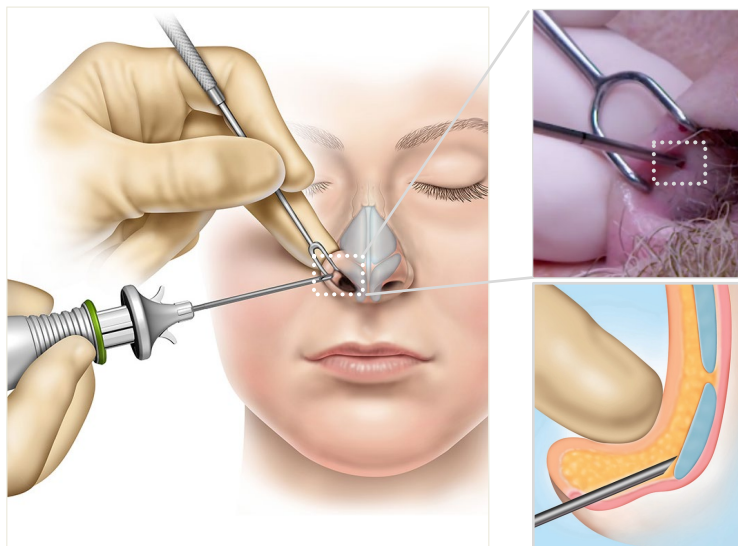

Figure 8: Images showing the approximate Delivery Device orientation, cannula trajectory and pierce point.
- The ala is everted under direct visualization, and the delivery cannula is inserted perpendicular to the septum through the nasal vestibular lining of the lateral wall within the nasal cavity near the margin of the nostril. A small conventional scalpel incision at the target cannula entry location may be optionally created to ease cannula puncture. Approximate Delivery Device orientation and cannula trajectory is shown in **Figure 8** below.